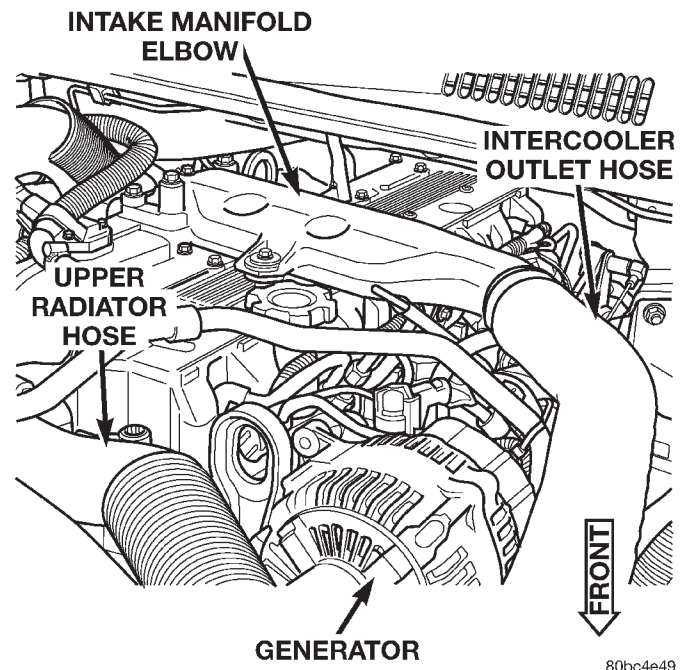
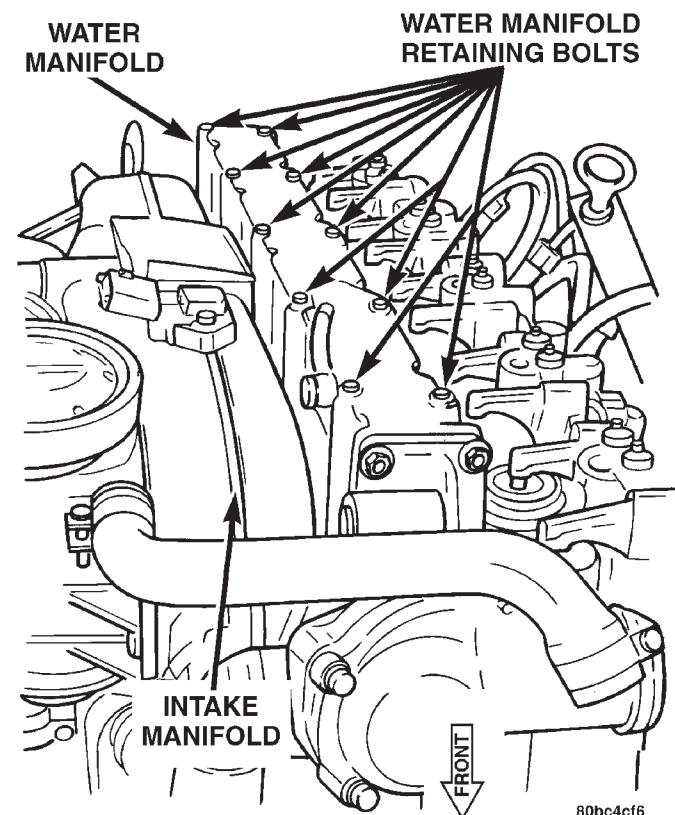

Fig. 54 Intake Manifold Elbow
Fig. 55 Water Manifold
(2) Drain the cooling system. Refer to Group 7, Cooling System for procedure.
(3) Discharge the air conditioning system. Refer to Group 24, Heating and Air Conditioning for procedure.
(4) Remove the A/C lines at the compressor and cap. Refer to Group 24, Heating and Air Conditioning.
(5) Remove A/C line bracket attached to cylinder head cover, and move A/C lines away from cylinder head.
(6) Remove the intake manifold elbow air inlet hose (Fig. 54).
(7) Remove the intake manifold elbow (Fig. 54).
(8) Remove the air cleaner hose from turbocharger and breather hose.
(9) Remove the upper radiator hose and coolant recovery hose.
(10) Remove the water manifold (Fig. 55).